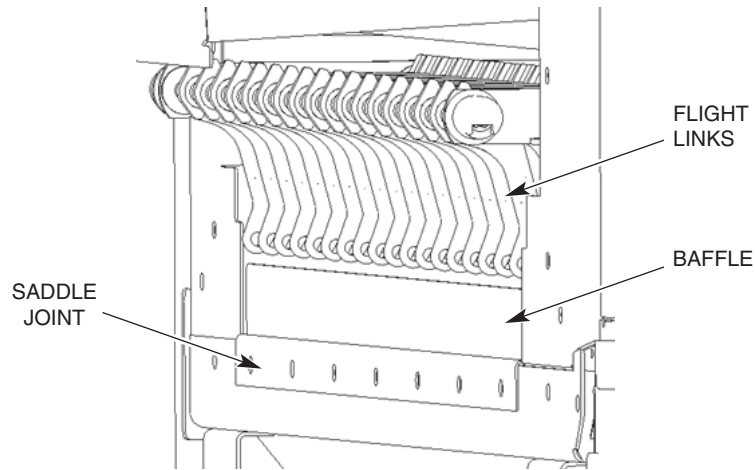

Fig. 13
3. If machine is equipped with the standard conveyor assembly, install baffles along with the saddles using same mounting hardware. Ensure baffles are adjusted to the lowest position to ensure that the baffle does not interfere with the flight links (Fig. 13).